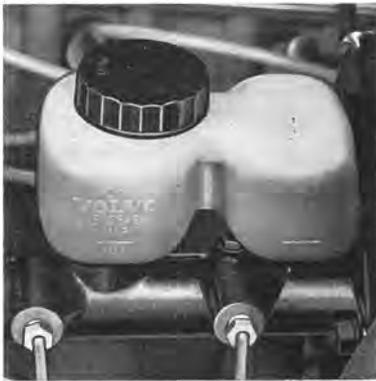

Fig. 1-15. Brake fluid container
2. Without removing the cap, check that the level in the brake fluid container is above the "Min" mark (see Fig. 1-15).